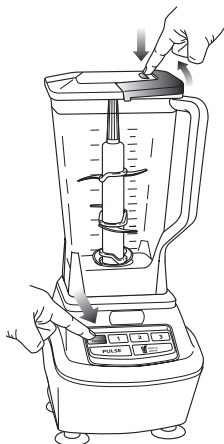
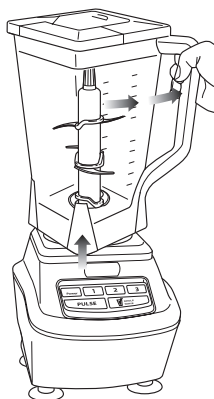

Fig. 7
Fig. 8
- 9 When you have reached your desired consistency, stop the appliance by pressing the power button (⏻) and wait for the attachment to stop turning. (Fig. 7)
- 10 To remove the lid, pull the lid handle up to a 90° angle. Turn the bowl clockwise to lift off the base. (Fig. 7, Fig. 8)